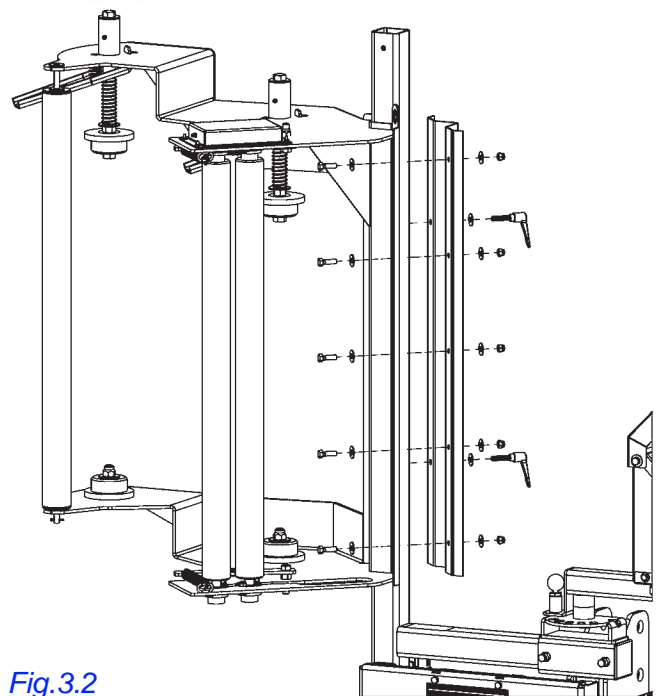

Fig.3.2
- Mount tensioner **(B)** to tensioner mount with clamps, Fig.3.2.